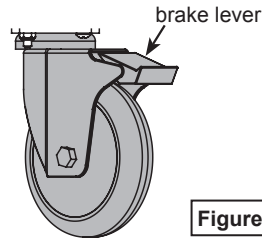

Figure 10
1. To lock the wheel rotation, press the brake lever. **Figure 10.**